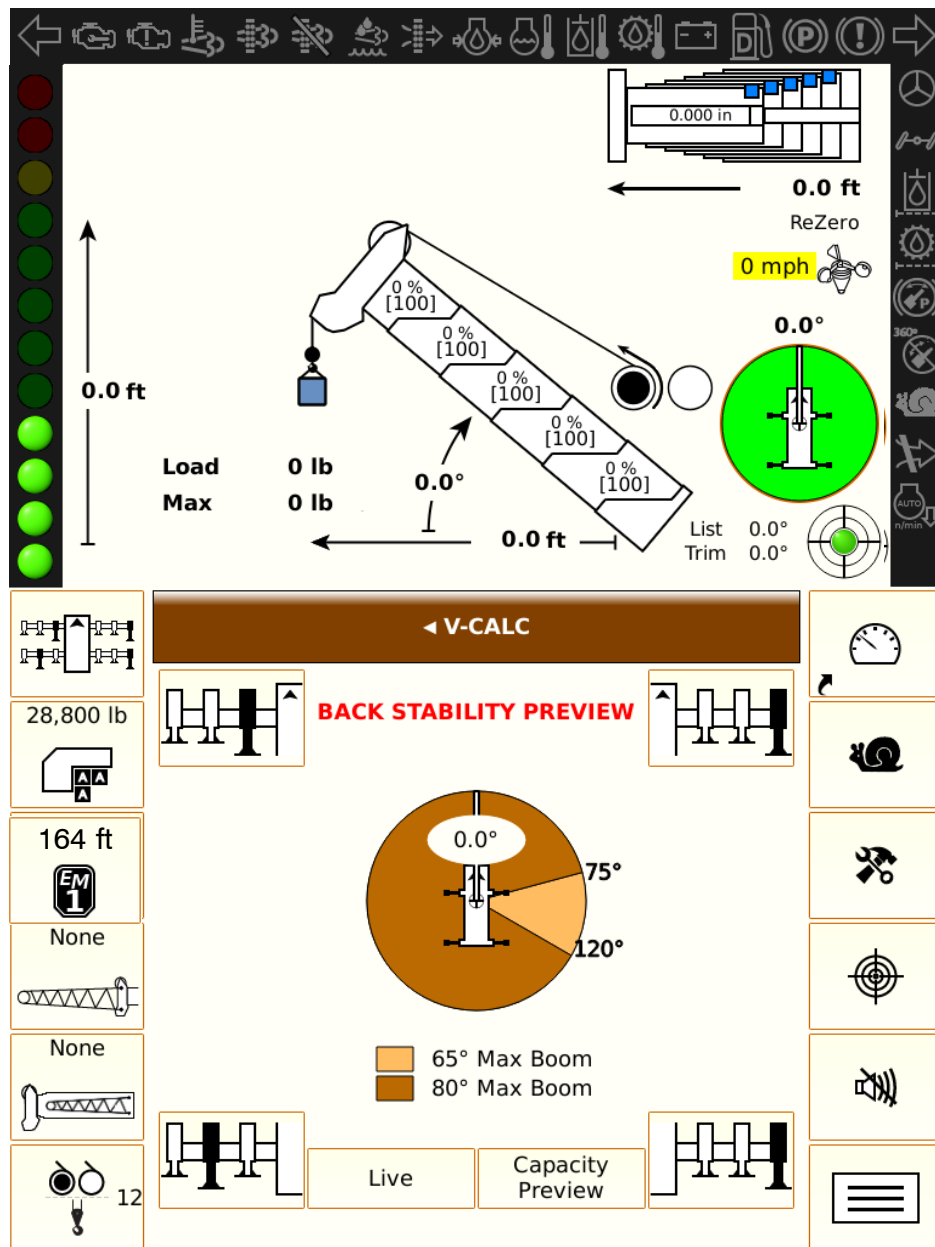

Figure 1–101
- e. If the Live Button is selected, the Live Radius Range will appear. Press the Capacity Preview Button below the Live Radius Range to return to the V-CALC Menu, as required. Press the Screen Header  to return to the previous menu, as required. Refer to Figure 1–99 and Figure 1–102.